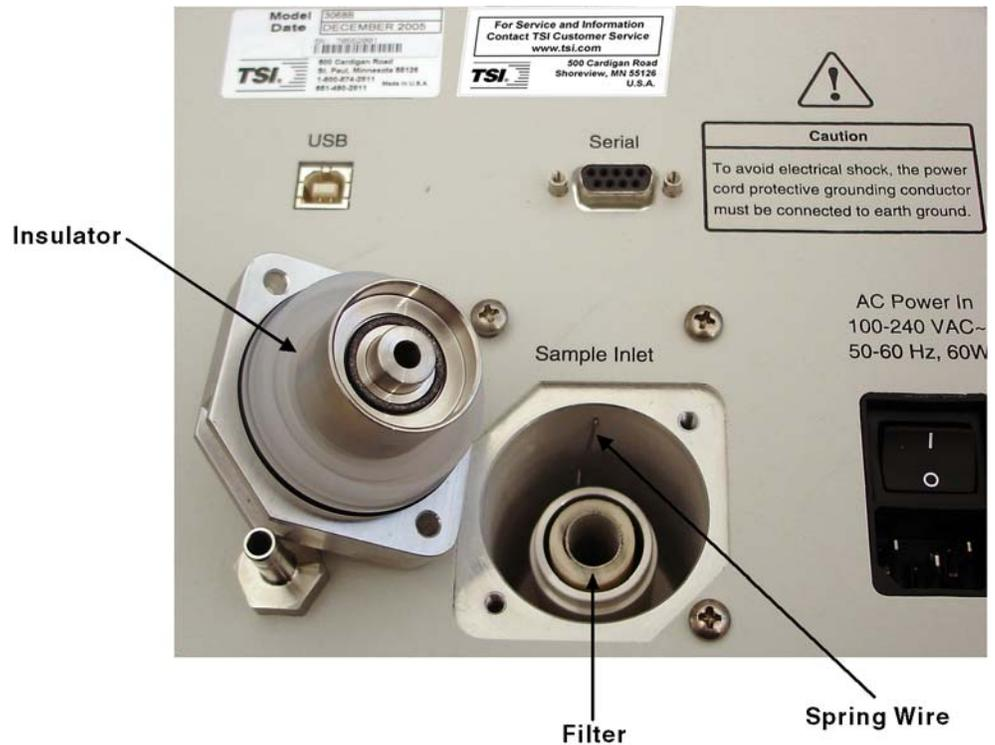

Figure 6-2
3. Remove the two (2) screws securing the filter access cover shown in Figure 6-1. Wear clean, lint-free gloves to reduce chances of contamination of interior parts. Pull the cover plate straight out. Be careful not to touch the plastic insulator attached to the inner side of the cover (Figure 6-2)—this will
4. Locate and remove the electrometer filter (Figure 6-2) by pulling it straight out.